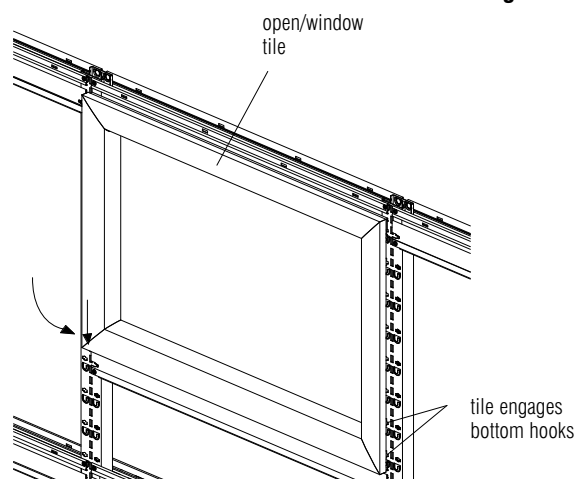

Figure 73
2. Hold the top of the tile against the frame and gently lift up on the bottom of the tile while pushing it in toward the frame to engage the hooks. Let the tile slide down into position while continuing to support it against the frame. **Figure 73.**